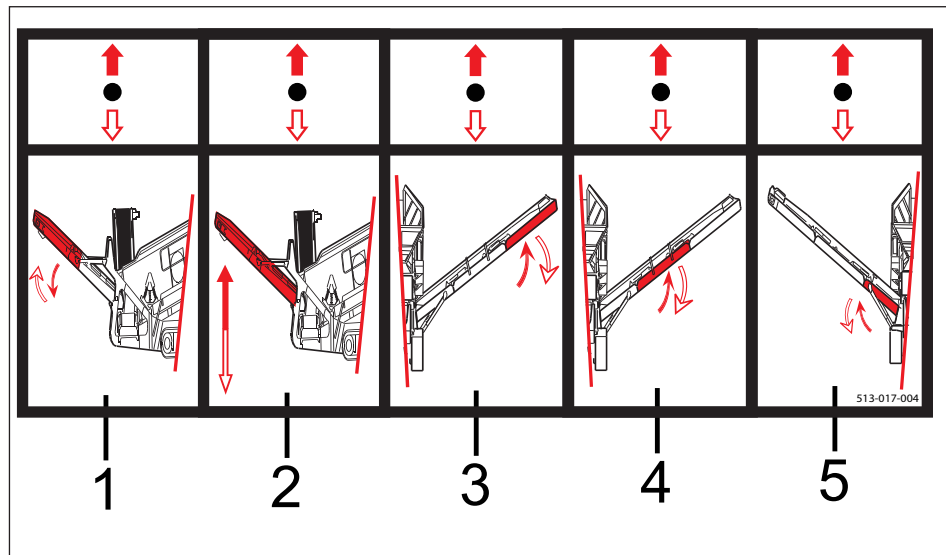

Figure 4.82 - Left Hand Side Control Bank Decal
4. Unfold the right hand side conveyor head section slightly using lever 3, to make sure there is slack on the belt (Figure 4.82).
5. Unfold the mid-section until it is almost vertical using lever 4 (Figure 4.82).
9. Go to the opposite side of the machine and locate the LHS control bank, finish unfolding the head section using lever 3 (Figure 4.82).